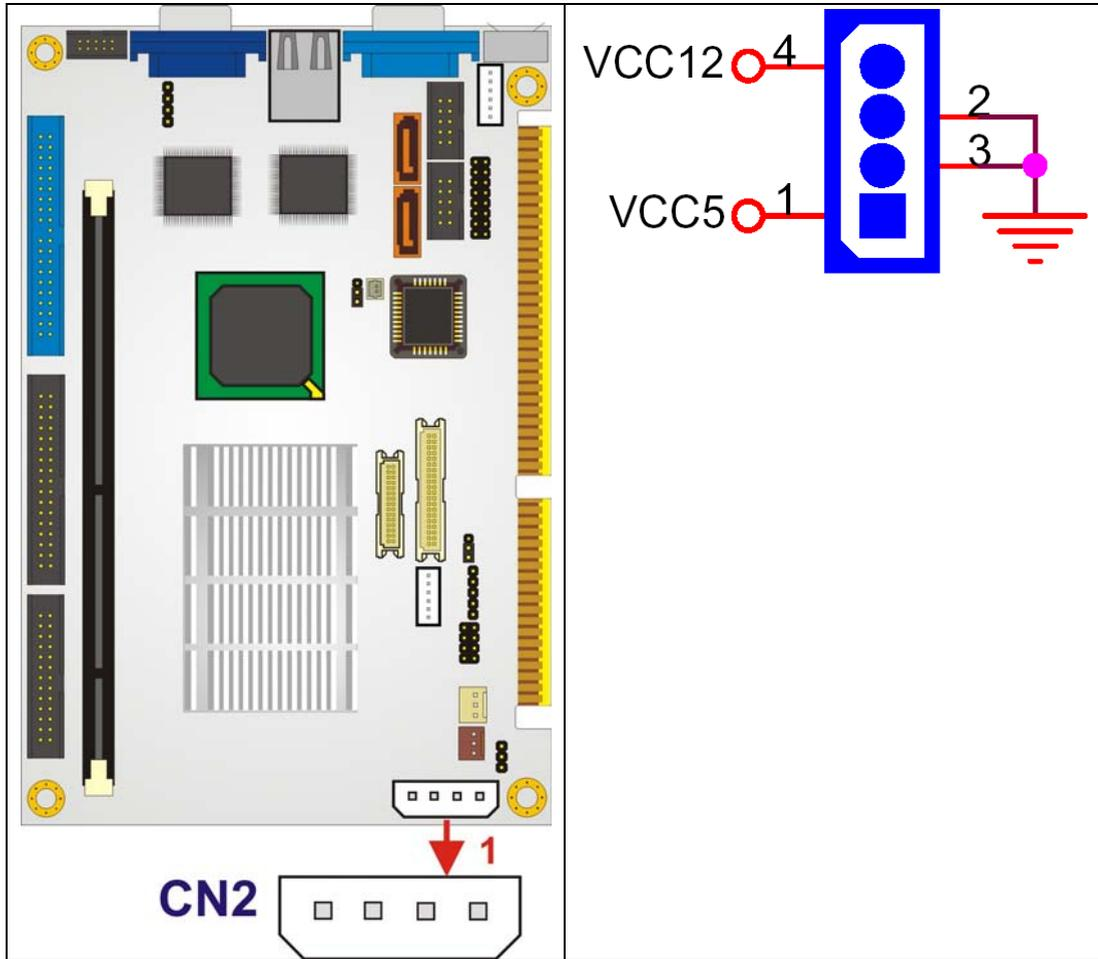

Figure 4-3: AT Power Connector Location
- CN Location:** See Figure 4-3